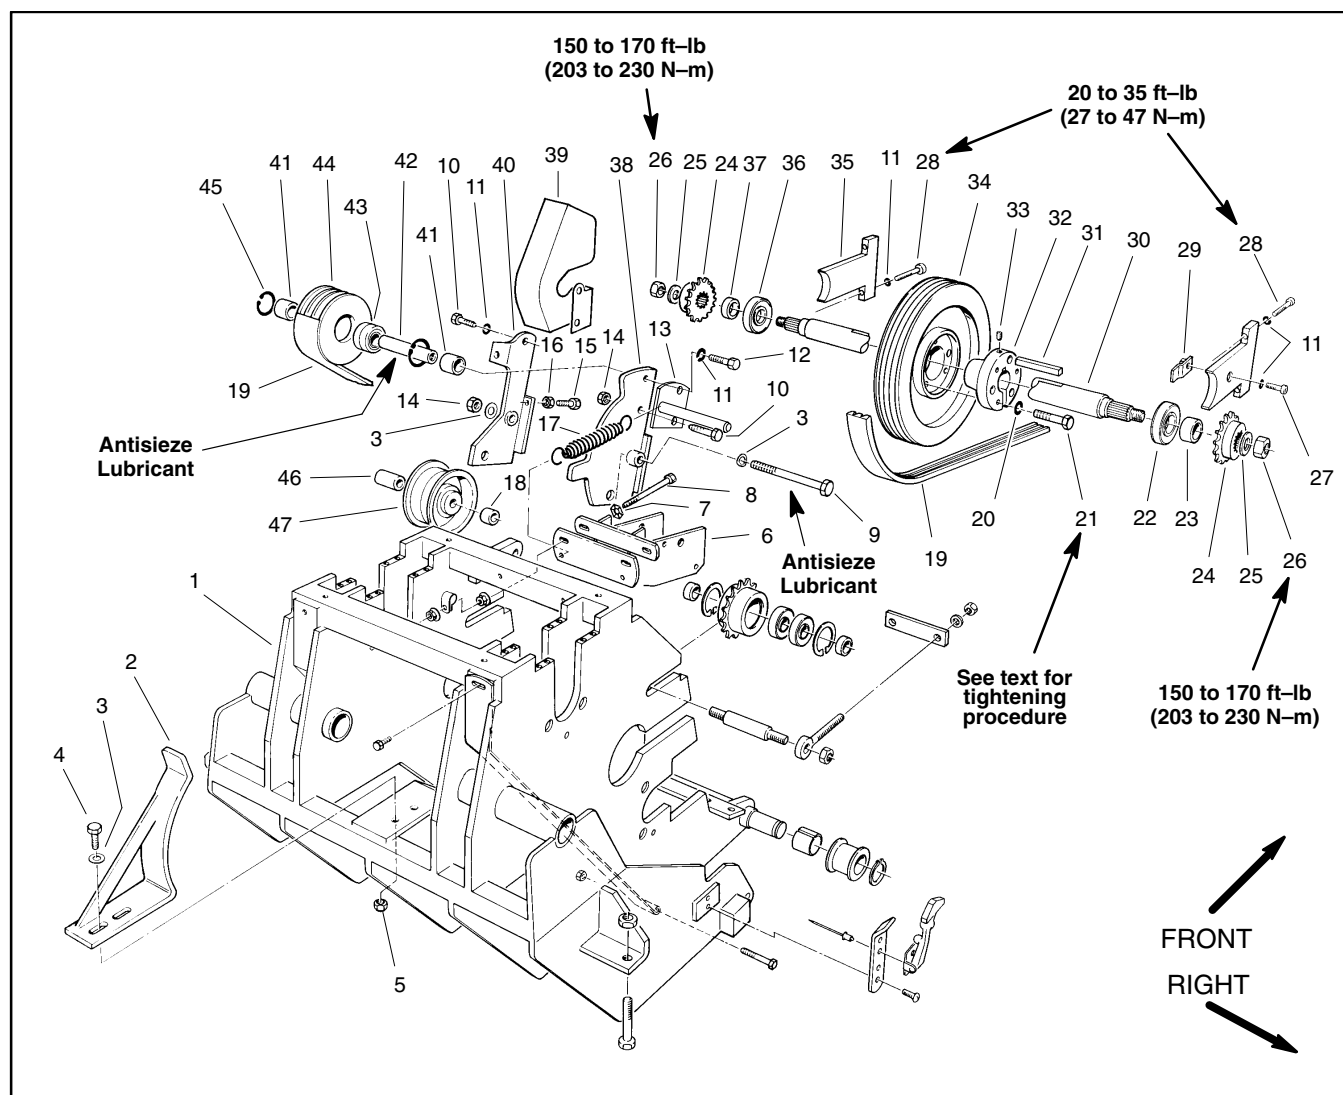

Figure 13
### Power Shaft Disassembly (Fig. 13)
### Power Shaft Assembly (Fig. 13)
### Belt Tensioner Disassembly (Fig. 13)
1. Disassemble belt tensioner components as required using Figure 13 as a guide.
### Belt Tensioner Assembly (Fig. 13)
1. Assemble belt tensioner components as required using Figure 13 as a guide noting the following:
- A. When installing the idler pulley (item 47), position short spacer (item 18) on the hub side of the pulley.
- B. Liberally apply antisieze lubricant to the shaft of cap screw (item 9) before installation of the cap screw into the idler brackets and idler pulley.
- C. Make sure that idler brackets (items 38 and 40) pivot freely after tightening the lock nut (item 14) that secures idler pulley (item 47).
- D. If bearings were removed from idler pulley (item 44), install one retaining ring, press bearings into pulley and then install second retaining ring.
- E. Coat idler shaft (item 42) with antisieze lubricant before installation.
2. After assembly of belt tensioner components, make sure to check belt alignment. If necessary, loosen fasteners that secure idler pivot pulley bracket (item 6) and adjust location of bracket on coring head frame.